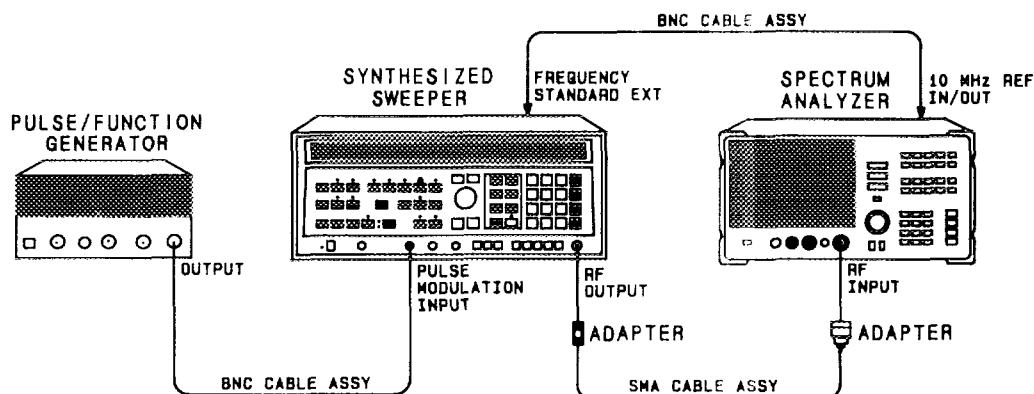

Figure 3-14. Pulse Digitization Uncertainty Test Setup
1. Connect the equipment as shown in Figure 3-14.